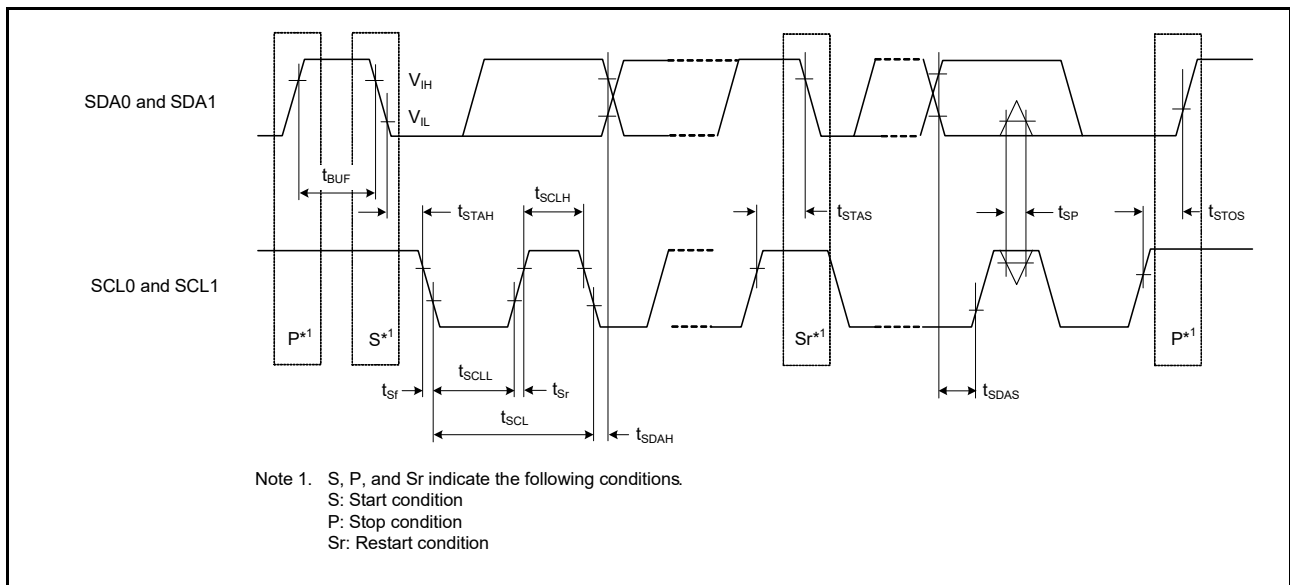

Figure 2.56 I2C bus interface input/output timing
| IIC(standard mode,SMBus) | SCL input cycle time  | $t_{SCL}$  | $6 (12) \times t_{IICcyc} + 1300$                   | -                         | ns              | Figure 2.56 |
| IIC(Fast mode)               | SCL input cycle time  | $t_{SCL}$  | $6 (12) \times t_{IICcyc} + 600$                    | -                         | ns              | Figure 2.56 |